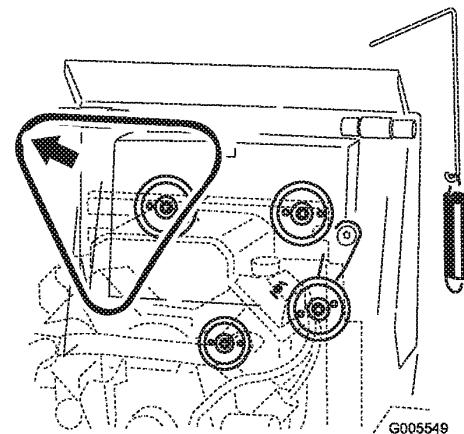

Figure 45
- Remove the belt from the three pulleys (Figure 45).